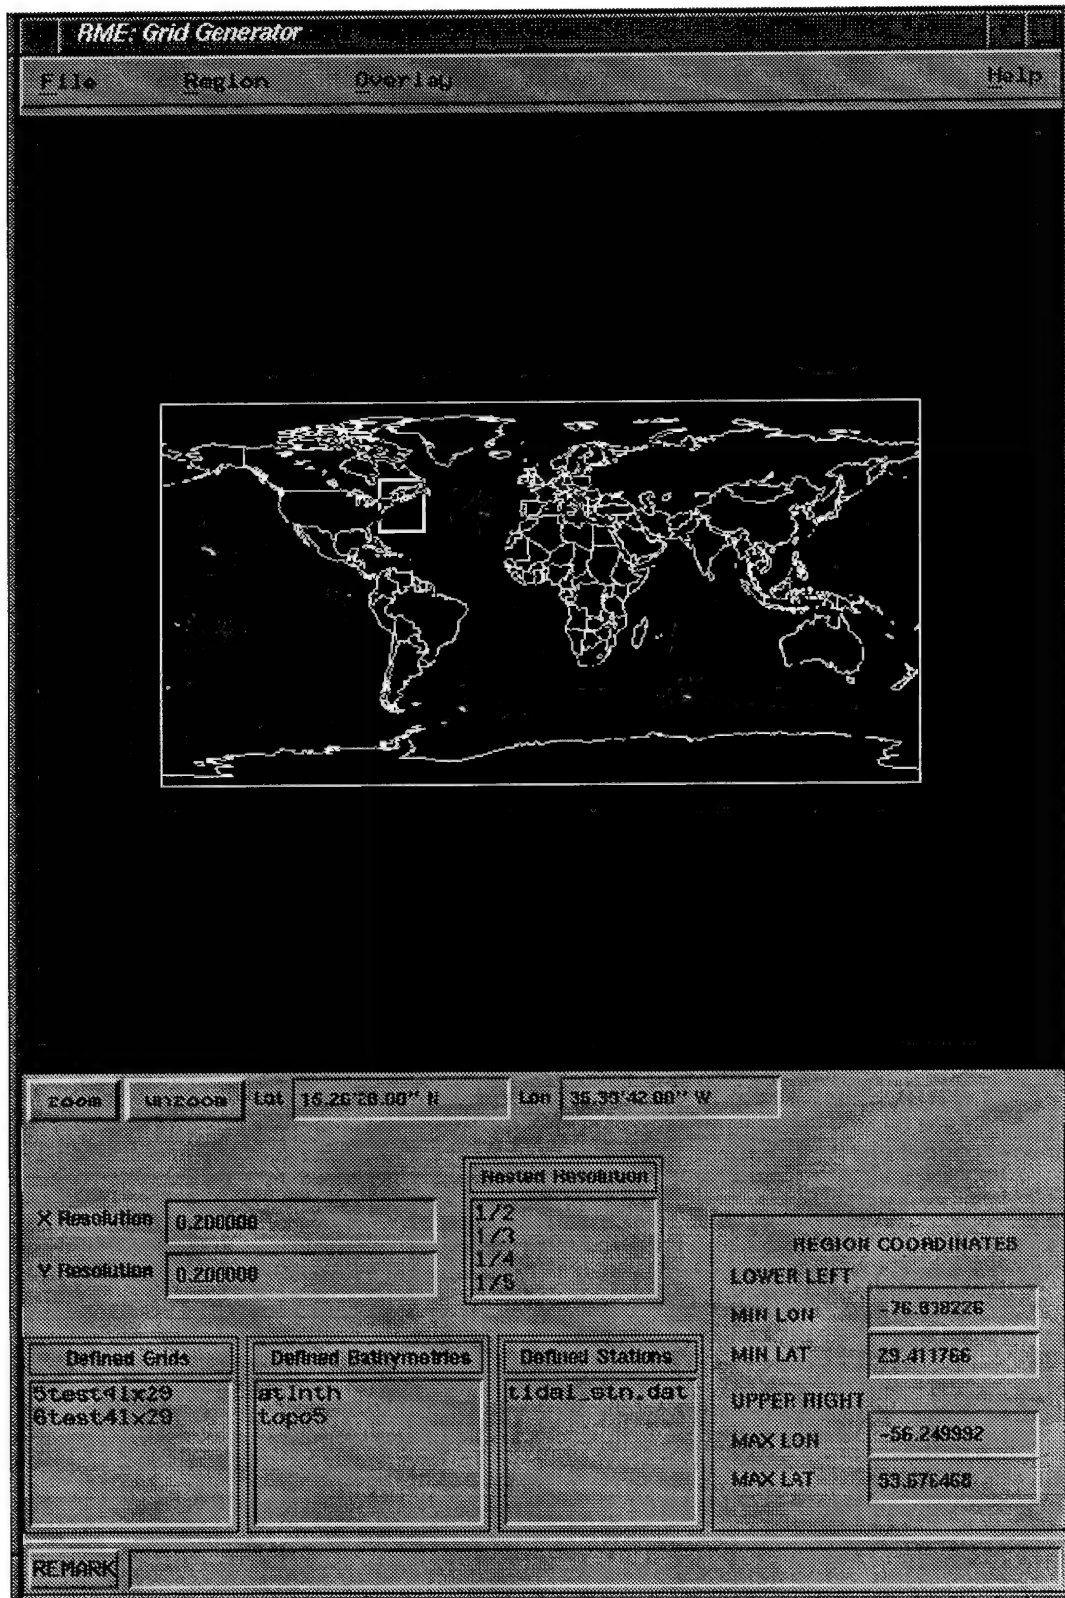

Figure 4 – Grid Generator GUI
1. Double click on the Grid Generator icon to produce the Grid Generator GUI (Figure 4). This has a world map for selecting the region of interest.
3. A white-bordered region of interest is created and displayed (see Figure 4).